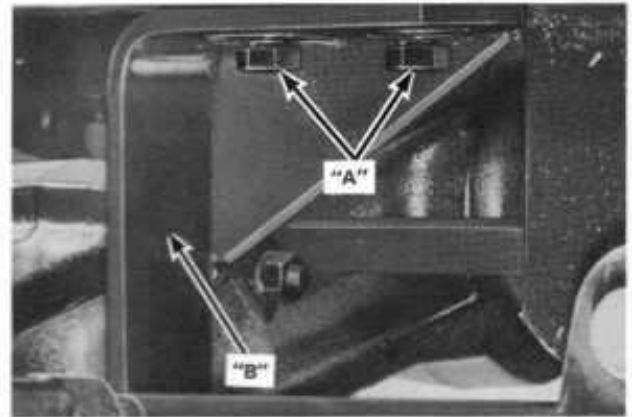

Figure 34
- Loosen capscrews "A," Figure 34.
- Secure capscrews "A," Figure 34.